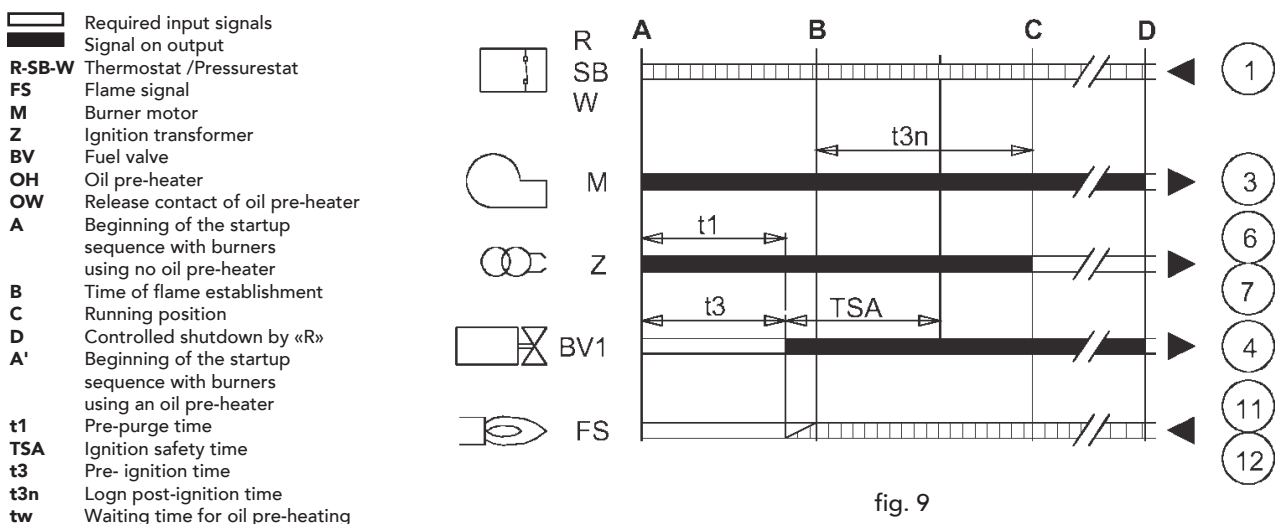

fig. 9
- Operation will start according the diagram in Fig. 9: